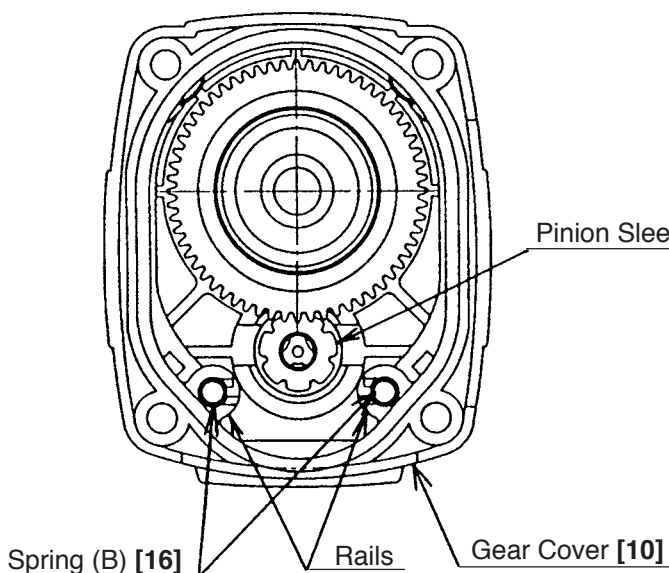

Fig. 13
(1) Disassembly of the striking mechanism section
- Push the Second Hammer [29] in the main body with a drill bit or screwdriver to release the Striker [37] from O-ring (C) [34].
- Remove Spring (B) [16] from the rails in the Gear Cover [10] as shown in Fig. 13.